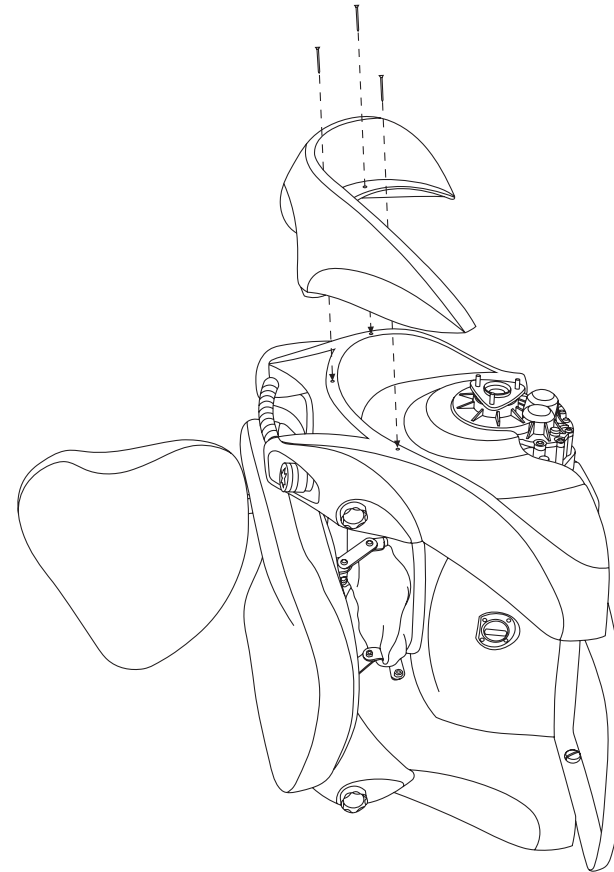

Figure 42: Remove/install the Off-Road Kit Wheel Guards (Fenders).
1. Position the Guard so that it aligns with the three holes in the Omeo Body (as seen in **Figure 42**)